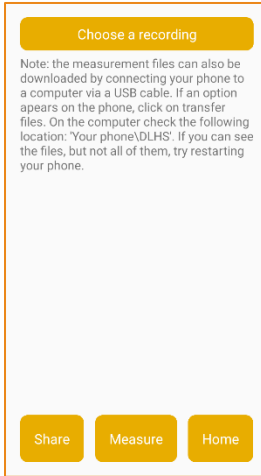

Figure 12 – View recorded files
- b. The following screen (Figure 12) allows the user to view the recordings, add additional measurements to the recorded files and share the files via email.